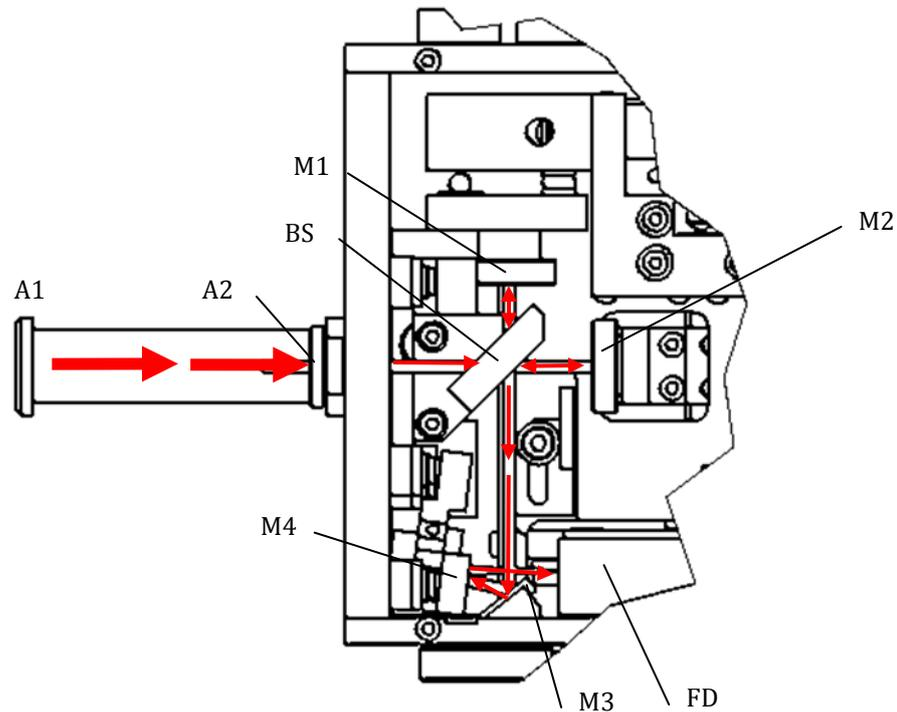

Fig.5
6. Pass laser beam through the apertures A1 and A2 (Fig.5).